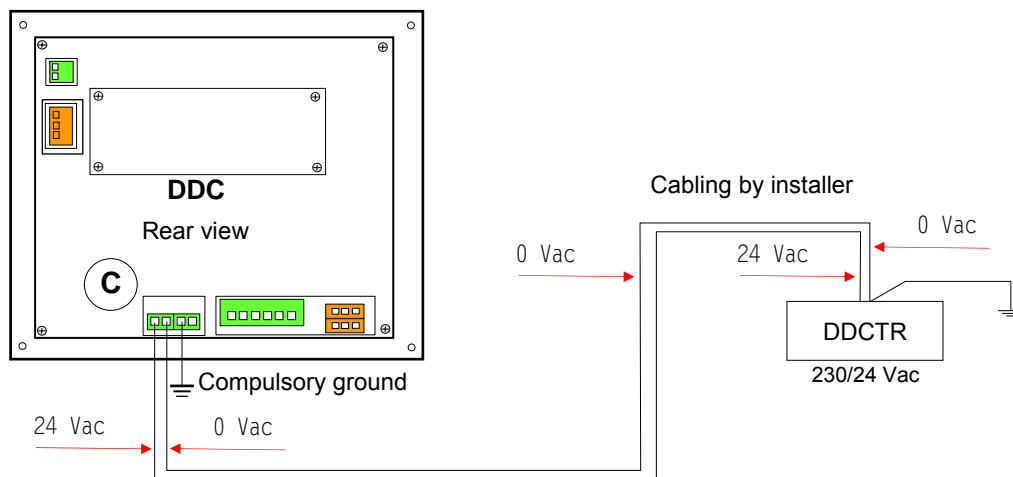

Figure 14 DDC power supply taken from external transformer to be set up by installer
Table 7 shows the legend of DDC connection schemes contained in the paragraph, from Figure 14 on page 33.
LEGEND OF DDC CONNECTION SCHEMES (from Figure 14 on page 33)
The transformer must be located in a proper external panel, to be set by installed (see Figure 14).
3. Insert power cable (DDC side) through the relevant opening in DDC cover and connect as shown in Figure 14, respecting polarity: